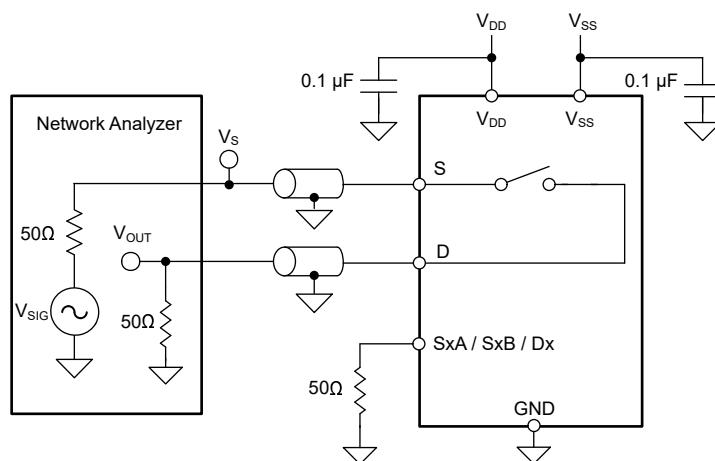

图 7-10. Off Isolation Measurement Setup
Off isolation is defined as the ratio of the signal at the drain pin (D) of the device when a signal is applied to the source pin (S_x) of an off-channel. 图 7-10 shows the setup used to measure, and the equation used to calculate off isolation.